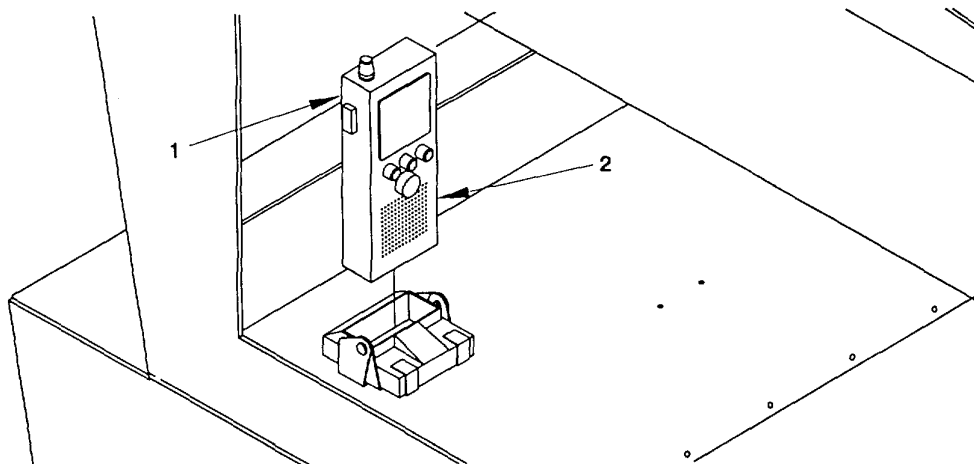

Figure 2-101. Battery Pack, Triton Receiver/Transmitter, Remove/Install
a. *Remove.* (figure 2-101)
- (1) Remove cover on receiver/transmitter (1).
- (2) Remove battery pack (2) from receiver/transmitter (1).
b. *Install.* (figure 2-101)
- (1) Install new battery pack (2) in receiver/transmitter (1).
- (2) Install cover on receiver/transmitter (1).